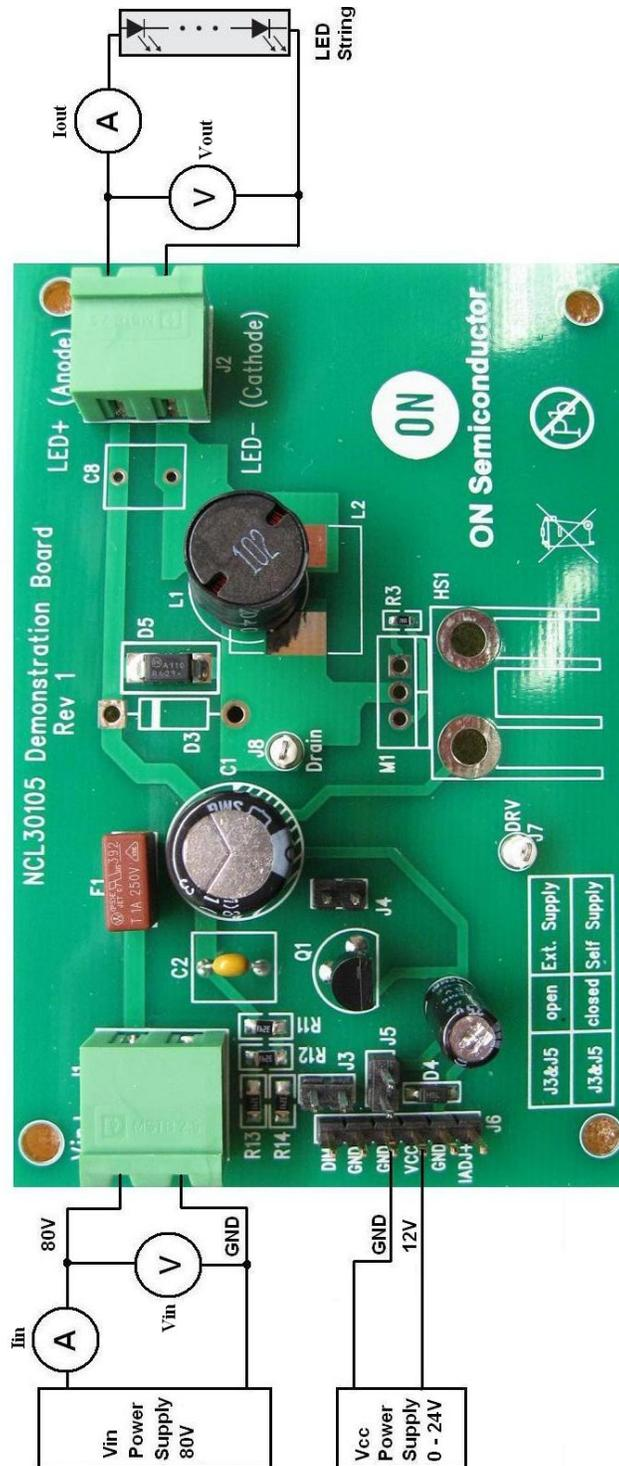

Figure 1 : Test Setup 1
- 1. Connect the test setup as shown in Figure 1. Verify J3 and J5 jumpers are open as illustrated.**